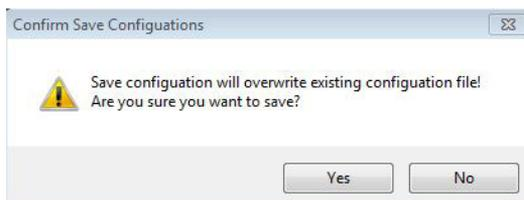

Figure 5.8 - Are You Sure
2. The Accutome A-Scan Plus Connect will launch a Windows browser as shown in Figure 5-8 below. Using the browser, locate the folder where you would like to restore exam data.